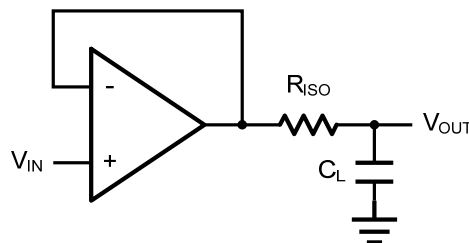
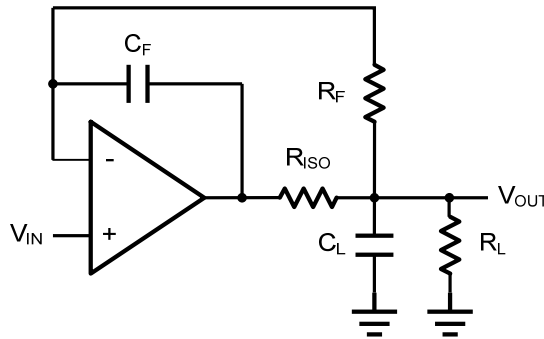

Figure 2. Indirectly Driving a Capacitive Load Using Isolation Resistor
Figure 3. Indirectly Driving a Capacitive Load with DC Accuracy
The MCOAX339Z family is optimized for bandwidth and speed, not for driving capacitive loads. Output capacitance will create a pole in the amplifier's feedback path, leading to excessive peaking and potential oscillation. If dealing with load capacitance is a requirement of the application, the two strategies to consider are (1) using a small resistor in series with the amplifier's output and the load capacitance and (2) reducing the bandwidth of the amplifier's feedback loop by increasing the overall noise gain. Figure 2. shows a unity gain follower using the series resistor strategy. The resistor isolates the output from the capacitance and, more importantly, creates a zero in the feedback path that compensates for the pole created by the output capacitance.
The bigger the R_{ISO} resistor value, the more stable V_{OUT} will be. However, if there is a resistive load R_L in parallel with the capacitive load, a voltage divider (proportional to R_{ISO}/R_L) is formed, this will result in a gain error. The circuit in Figure 3 is an improvement to the one in Figure 2. R_F provides the DC accuracy by feed-forward the V_{IN} to R_L . C_F and R_{ISO} serve to counteract the loss of phase margin by feeding the high frequency component of the output signal back to the amplifier's inverting input, thereby preserving the phase margin in the overall feedback loop. Capacitive drive can be increased by increasing the value of C_F . This in turn will slow down the pulse response.